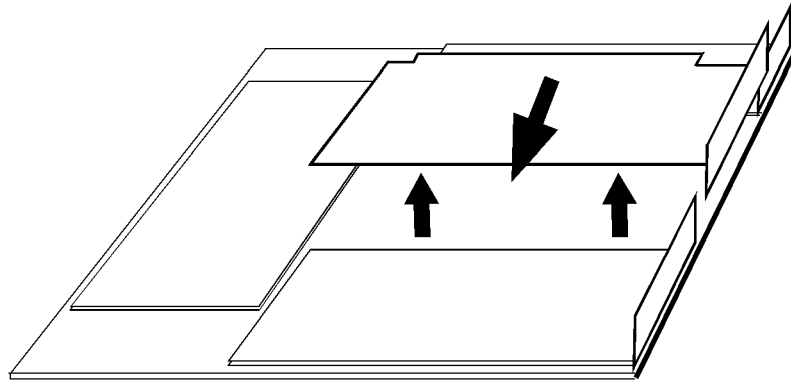

Figure 6-14. Removing the Center IPOD
7. After the IPOD is disengaged from its socket, lift it straight up away from the ICM (see Figure 6-14).
2. Align the pins of the IPOD with the socket on the ICM (reversing the procedures illustrated in Figure 6-14).